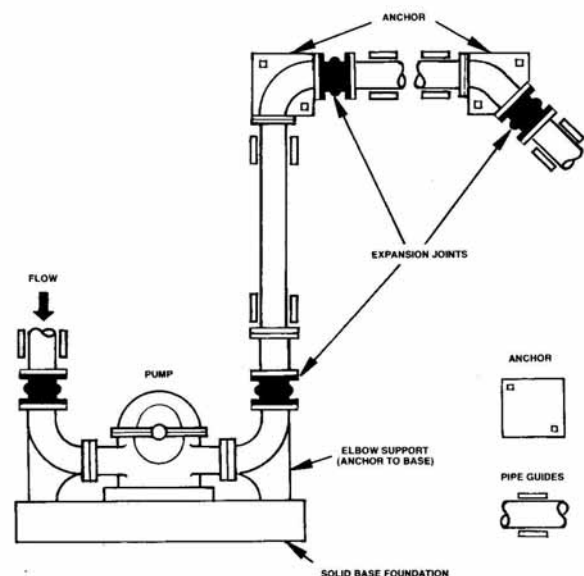
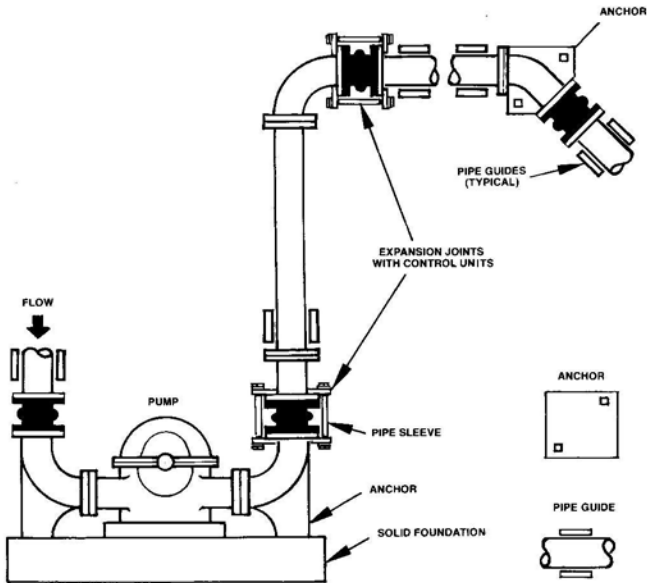

Figure 1
Fig 4
A.1. Anchors are required: Figure 1 illustrates a simple piping system. In all cases, solid anchoring is provided wherever the pipeline changes direction and the expansion joints in that line are located as close as possible to those anchor points. In addition, following the expansion joints, and again as close as is practical, pipe guides are employed to prevent displacement of the pipeline. It should be pointed out that the elbows adjacent to the pump are securely supported by the pump base so that no piping forces are transmitted to the flanges of the pump itself. Anchors shown at the 90° and the 45° bend in the pipeline must be solid anchors designed to withstand the thrust developed in the line together with any other forces imposed on the system. at this point.
8.4. Illustration of the Use of Control Rods Units. Figure 4 demonstrates the type of piping connections that must be used in the event it is impossible to employ anchoring. The anchor point at the upper 90° elbow in the discharge line has been eliminated. (Compare to Figure 1). In this situation, it is necessary to employ properly designed control rods units with the joints located in this non-anchored line. Without the use of these control rods units, the pipeline between the pump and the anchor at the 45° bend would be severely displaced due to elongation in the flexible rubber expansion joint. This elongation would proceed until the joints rupture. The use of control rods units in this case permits expansion of the pipeline in both the vertical and horizontal direction between the pump and the anchor at the 45° bend. However, it does preclude the possibility of contraction in these respective lines as the further extension of the expansion joint is impossible because of the control rods units.